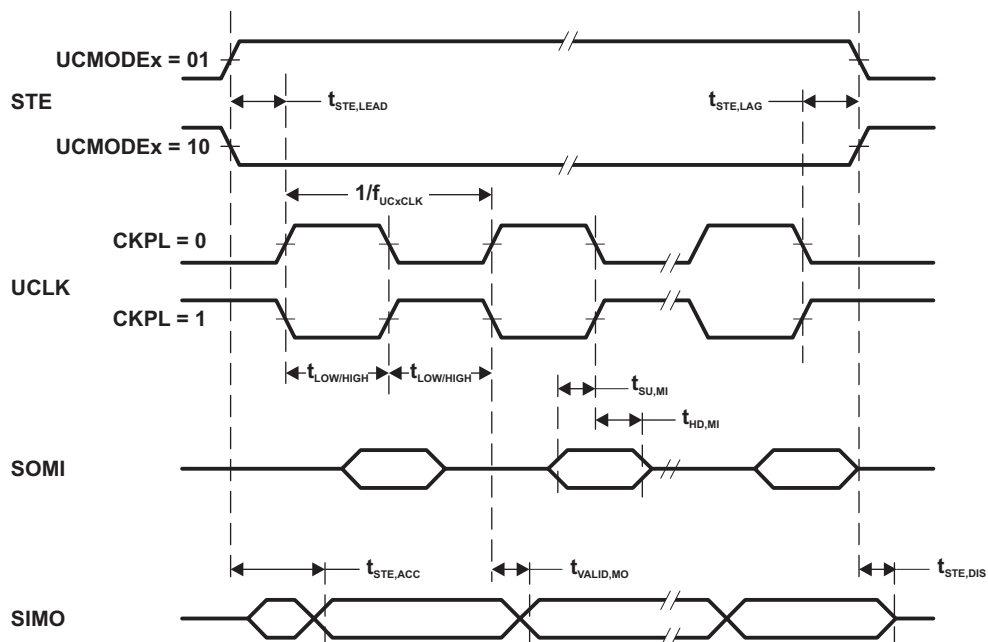
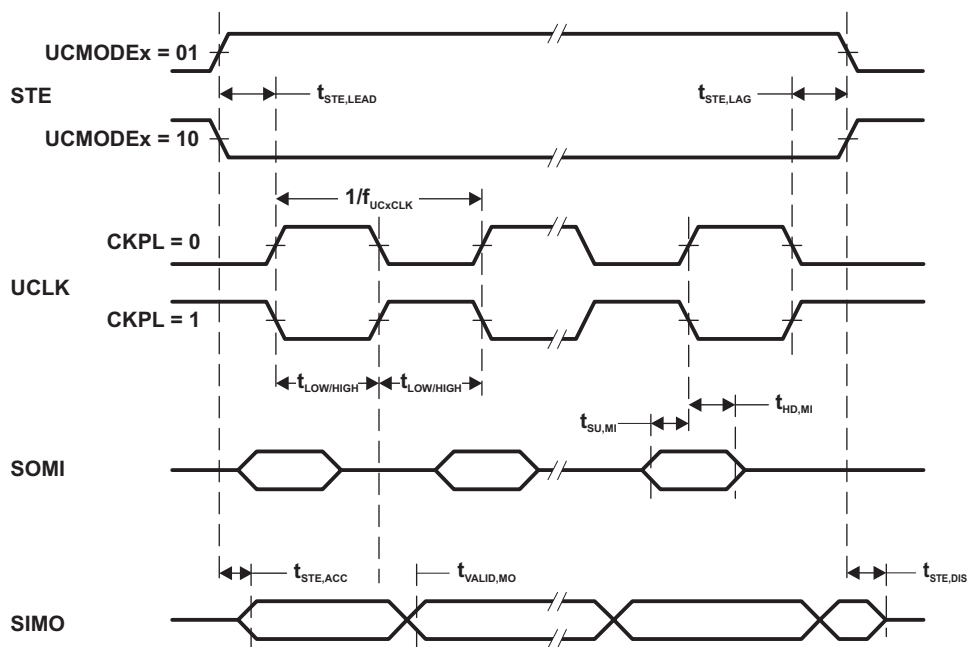

Figure 4-6. SPI Master Mode, CKPH = 0
Figure 4-7. SPI Master Mode, CKPH = 1
- (2) Specifies the time to drive the next valid data to the SIMO output after the output changing UCLK clock edge. See the timing diagrams in Figure 4-6 and Figure 4-7.
- (3) Specifies how long data on the SIMO output is valid after the output changing UCLK clock edge. Negative values indicate that the data on the SIMO output can become invalid before the output changing clock edge observed on UCLK. See the timing diagrams in Figure 4-6 and Figure 4-7.